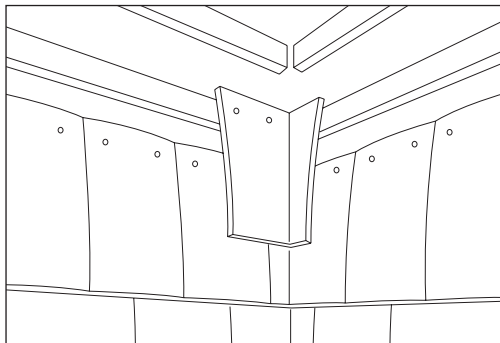

Fig 77 – Internal angle with Internal Angle tiles
- Left and right hand angles of 90° are available to provide a broken bond with main tiling, to be twice nailed (Figs 77 and 78).